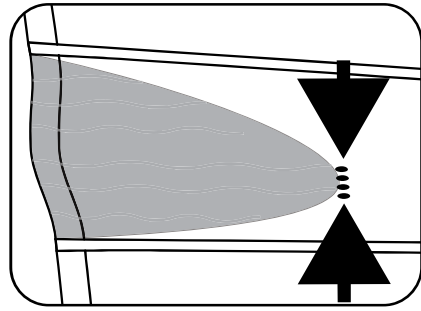

Figure 2: With no outhaul and the leech lying on the ground, downhaul until the looseness extends to the four black dots.
- Then, downhaul until the looseness on the leech extends to the four dots printed on the upper leech of the sail (figure 2).